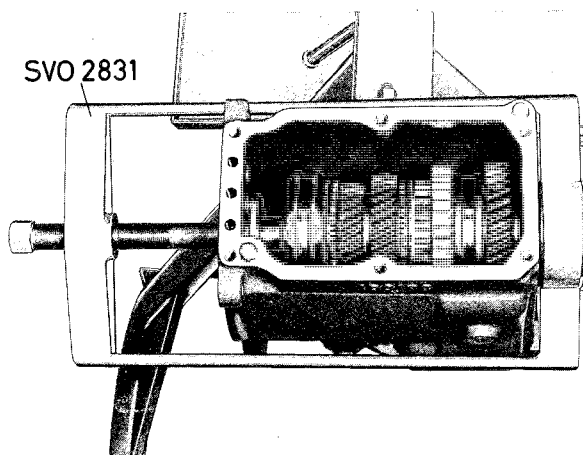

Fig. 4-26. Mainshaft rear bearing installation
4. Fit the rear ball bearing onto the mainshaft. NOTE. The ball holder should be faced inwards. Fit press tool 2831 over the bearing and the mainshaft as shown in Fig. 4-26. Press the bearing onto the shaft. If the bearing does not locate in the housing, the spindle on tool 2831 can be screwed out and a flat iron piece placed between this and the front end of the housing. The bearing can then be pressed into position with the tool.